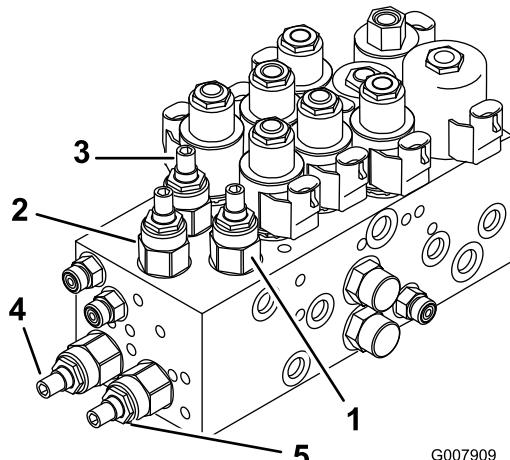
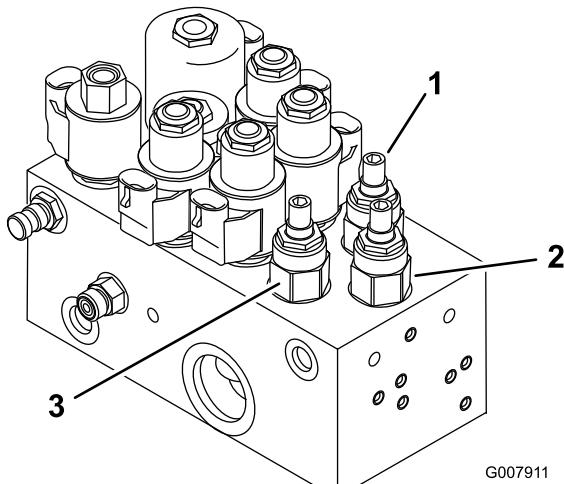

Figure 85
Figure 86
- Locate the valves, on the lift manifold, for adjusting the desired cutting unit(s) (See chart and Figure 85 and Figure 86).